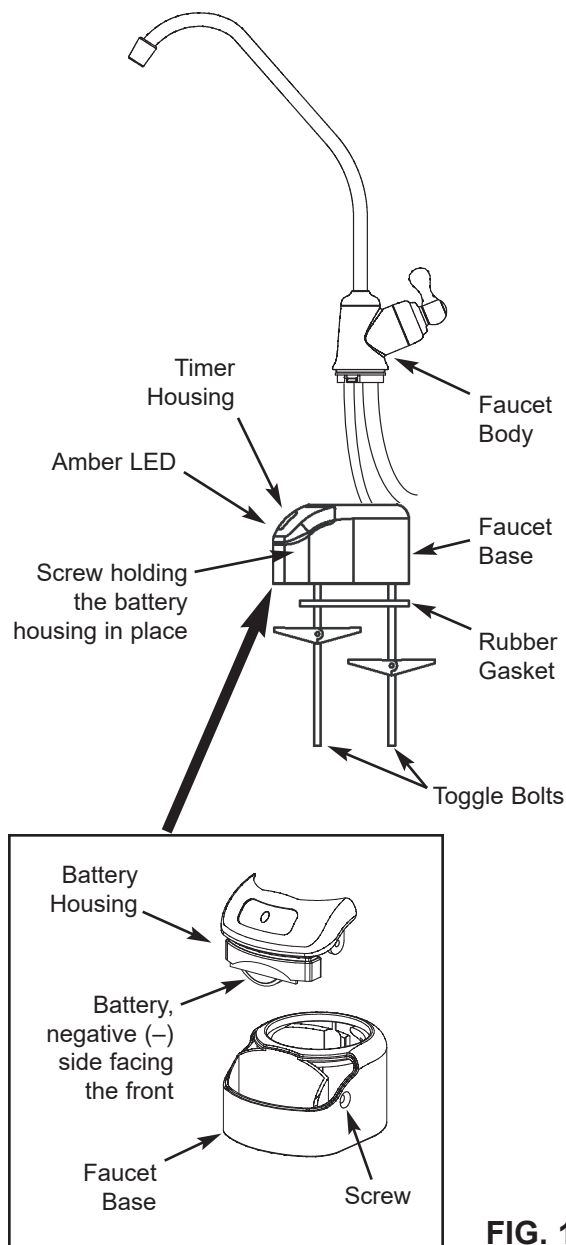

FIG. 15
1. Locate and organize your RO faucet install parts. Refer to Fig. 15.
2. Press the battery housing upward from the front faucet base until it releases from the faucet base. See Fig. 15.
5. Re-install the battery housing and firmly tighten the mounting screw. See Fig. 15.